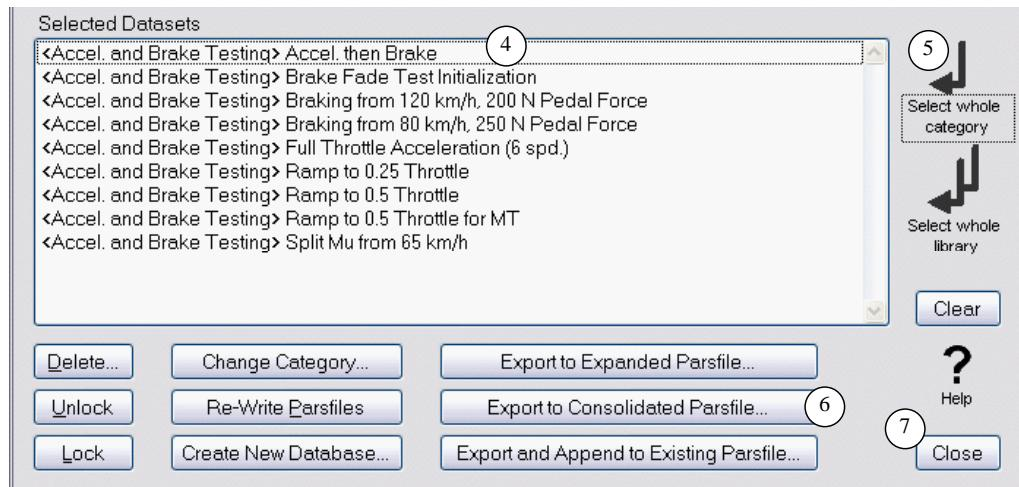

Figure 81. Datasets from **Accel. and Brake Testing** moved to **Selected Datasets**.
3. Move all of the datasets in the category **Accel. and Brake Testing** (2) to the bottom list **Selected Datasets** (4). There are two quick ways to do this:
- a. Double-click on the category name (2).
- b. Or, click on the button **Select whole category** (5).
Either way, all of the datasets will be moved to the **Selected Datasets** list (4) (Figure 81).